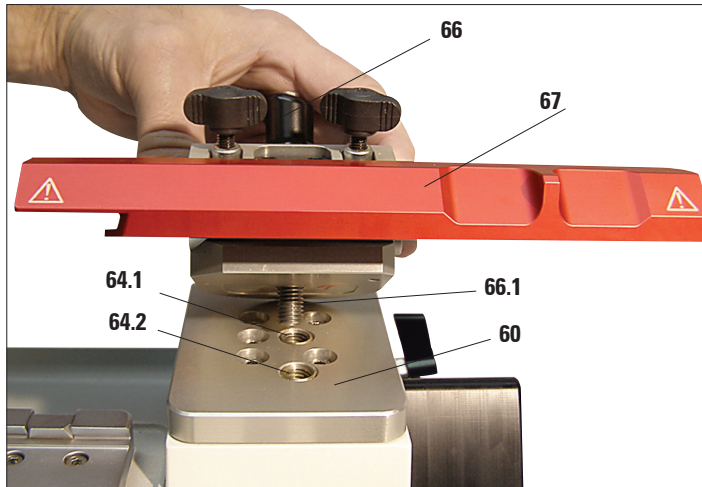

Fig. 11
- Press the clamping lever (66) of the knife holder (67) downwards and screw the bottom of the thread (66.1) into one of the two bores (64.1) or (64.2, Fig. 11) of the intermediate plate (60).